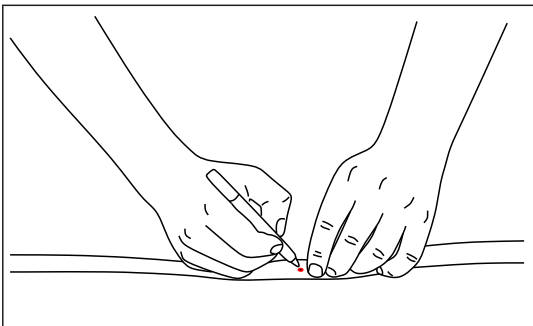

Fig. 18
- Based on the above example mark the limit tape every 22". The dots in the control tape are approximately one inch apart so you can count 22 dots then fold the first marked length to measure and mark the rest of the tape (Fig.18).